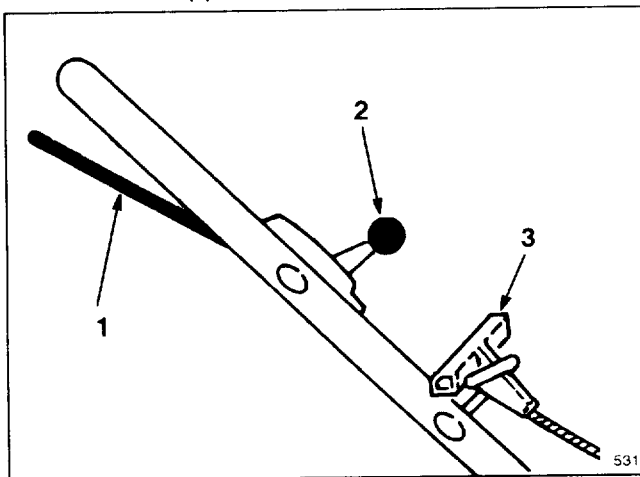
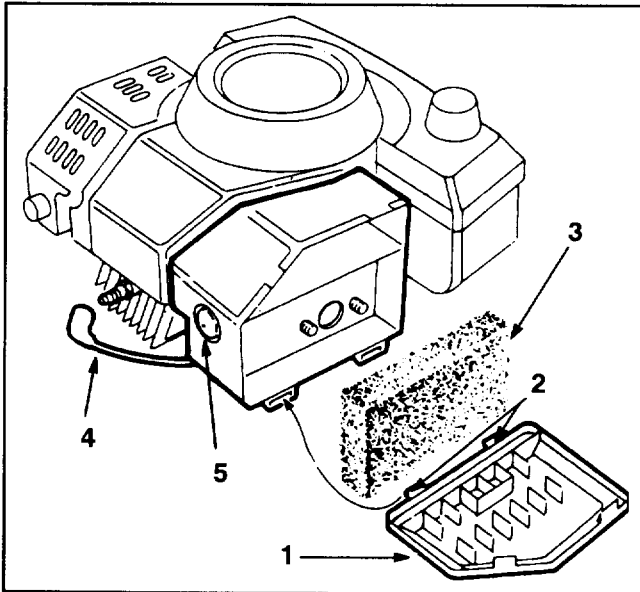

Figure 7
Figure 13
1. CONTROLS—Throttle, control bar and fingertip starter are on upper handle (Fig. 7).
2. Push spark plug wire onto spark plug (Fig. 13).
3. STARTING—Move throttle to  (CHOKE) (Fig. 7). Cover hole in center of primer with thumb and push once (Fig. 13). Lift control bar to handle
1. Stop engine and pull wire off spark plug (Fig. 13).
2. Lift tabs at top of air cleaner cover and pivot cover down. Clean cover thoroughly (Fig. 13).
3. If outside of foam element is dirty, remove it from air cleaner body (Fig. 13). Clean thoroughly.